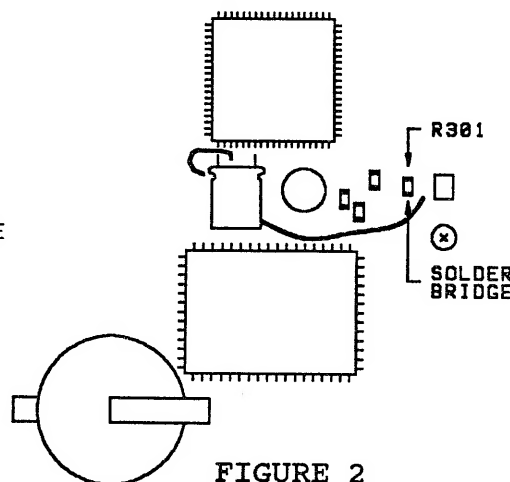

FIGURE 2
5. Locate chip resistor R301 on the Control board inside the front panel of the transceiver. FIGURE 2